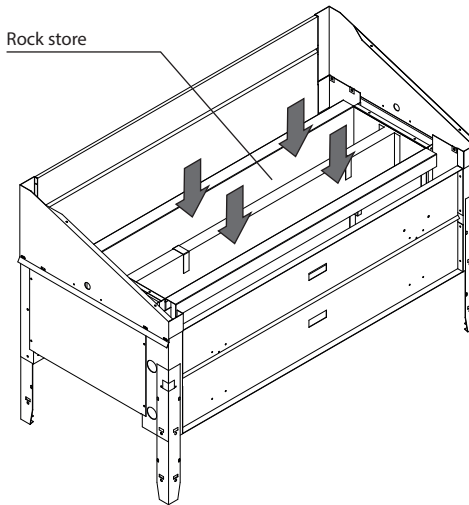

Fig. 4
- Load the rocks in the rock store. Do not insert the rocks too tight, leave spaces between them to allow the air circulation. The store takes up to 75 kg. See Fig. 4.